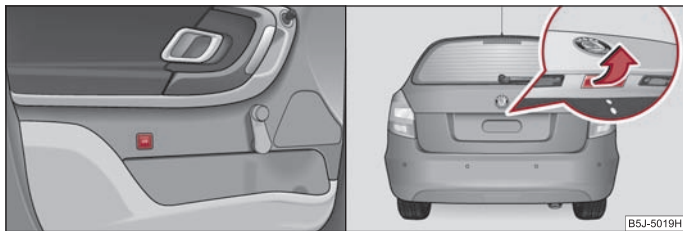

Fig. 29 Unlock the boot lid / handle of the boot lid
- **On vehicles with central locking** unlock the boot lid by pressing the button on the driver door ⇒ fig. 29.